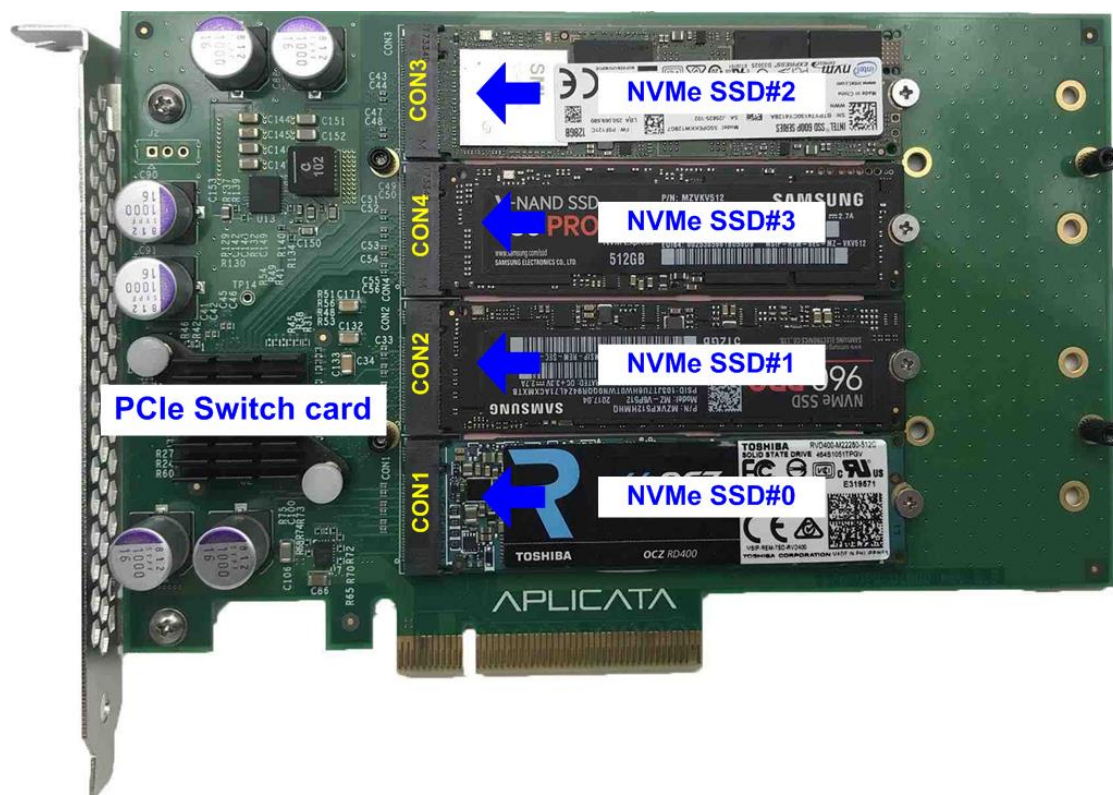
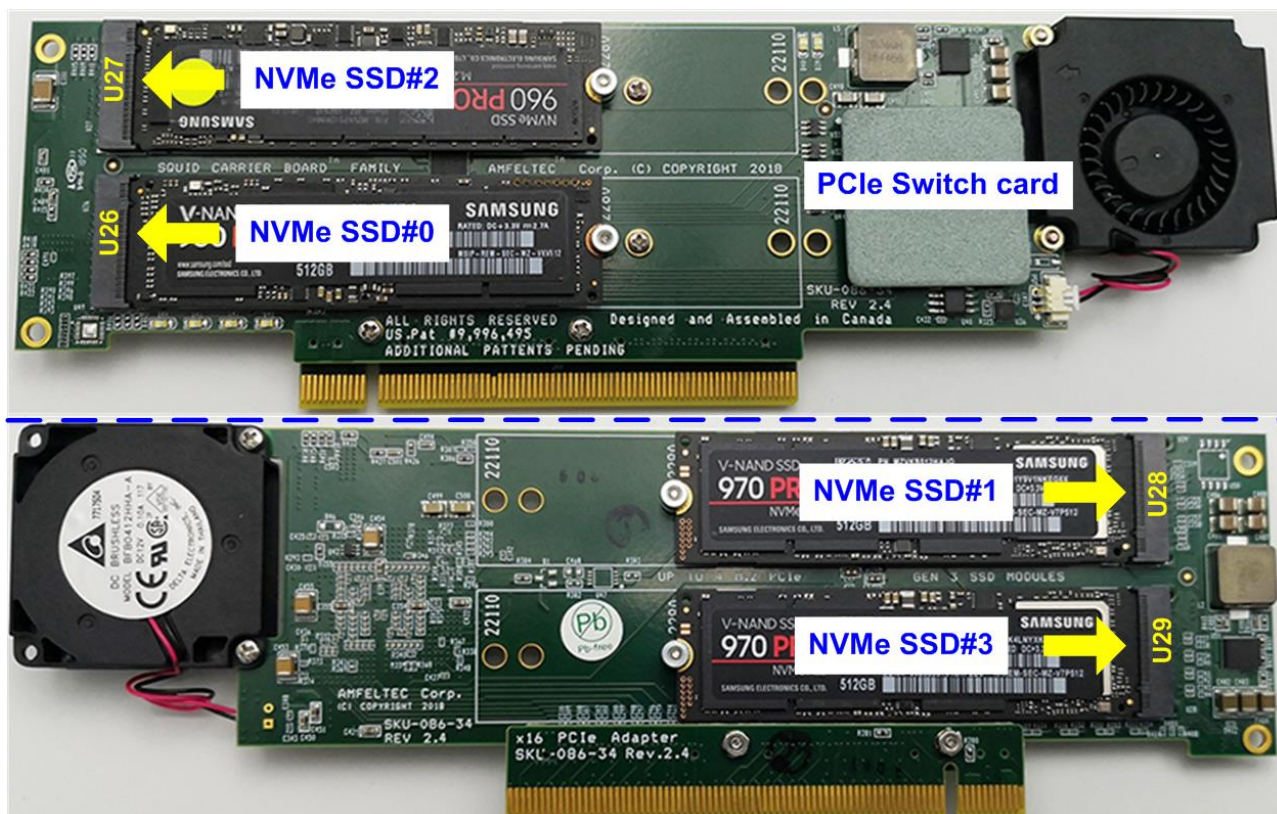

Figure 2-3 Connect NVMe SSD to PCIe Switch#1
Figure 2-4 Connect NVMe SSD to PCIe Switch#2
- 4) Connect 1-4 NVMe SSDs to PCIe switch card. Figure 2-3 and Figure 2-4 show the example of using four SSDs connected to PCIe switch card.